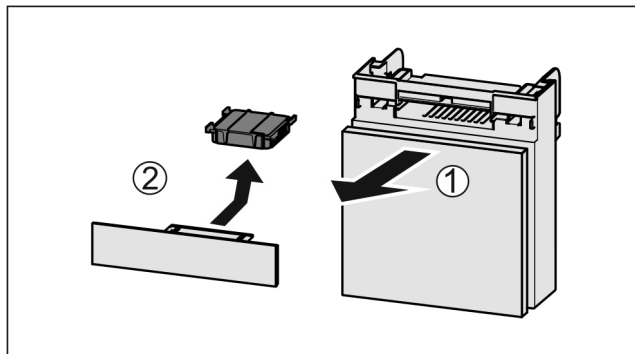

Fig. 126
- Pull out the compartment Fig. 126 (1).
- Remove the carbon filter Fig. 126 (2).